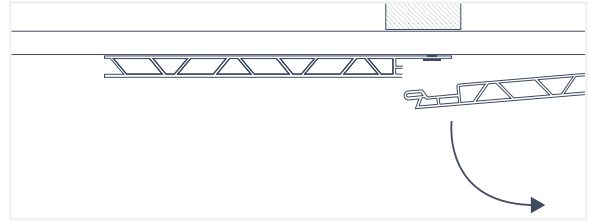

Fig. 33
5. Now, tilt the adjacent panel out of the way and remove the screws from the damaged panel (Fig. 33). [next page]